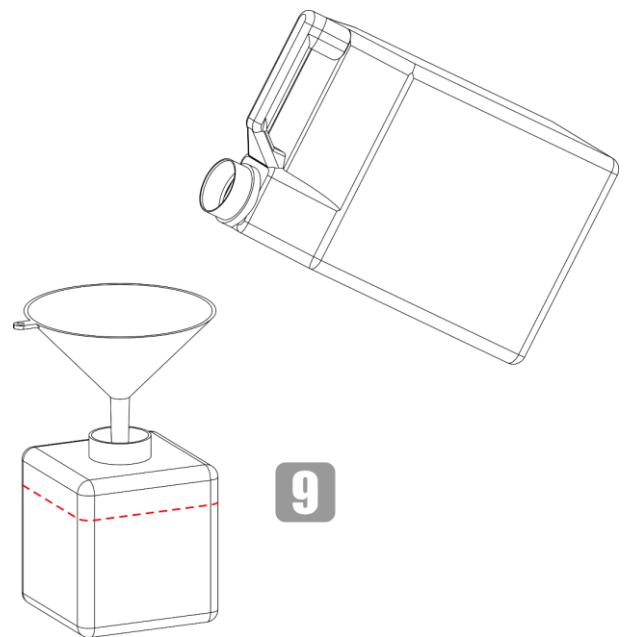

Fig. 16
- 09) Use a funnel to pour the fog fluid into the tank, as shown in Fig. 16.
- 10) Fill the fluid container with the recommended fog fluid (Max. Fluid Tank Capacity 1 L). Make sure that you do not overfill. See Fig. 16 for more information.